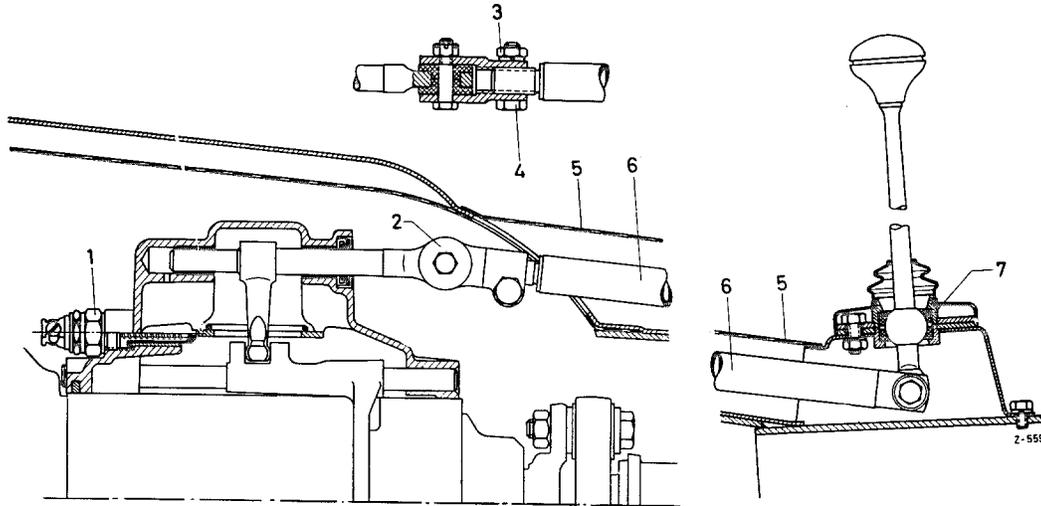

Fig. 26-1/9
1. Roll back the rubber mat on the transmission tunnel to the left. After unscrewing the six hexagon tapping screws from the tunnel, remove the cover plate (5) for the shift linkage (Fig. 26-1/9).
2. Loosen the hexagon nut (3) on the yoke end (2) and take out the hexagon screw (4).
Then insert the hexagon screw (4) in the yoke end, install the lock washer and tighten the hexagon nut (3) (Fig. 26-1/9).
**Note:** In order to facilitate installation of the hexagon nut (3) engage 1st gear, making sure that the position of the shift tube in the yoke end is not changed.